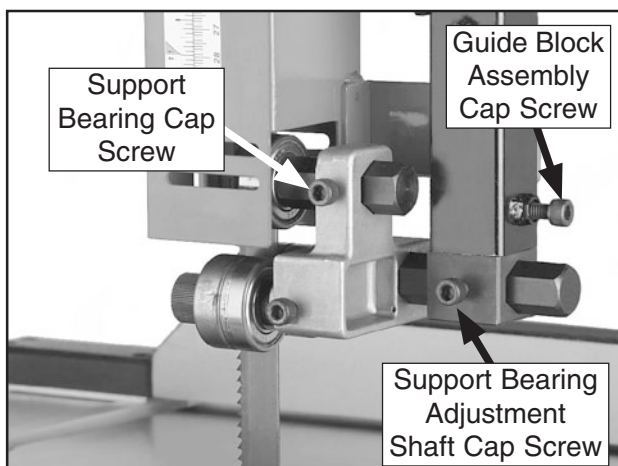

Figure 40. Upper support bearing controls.
3. Familiarize yourself with the upper support bearing controls shown in **Figure 40**.